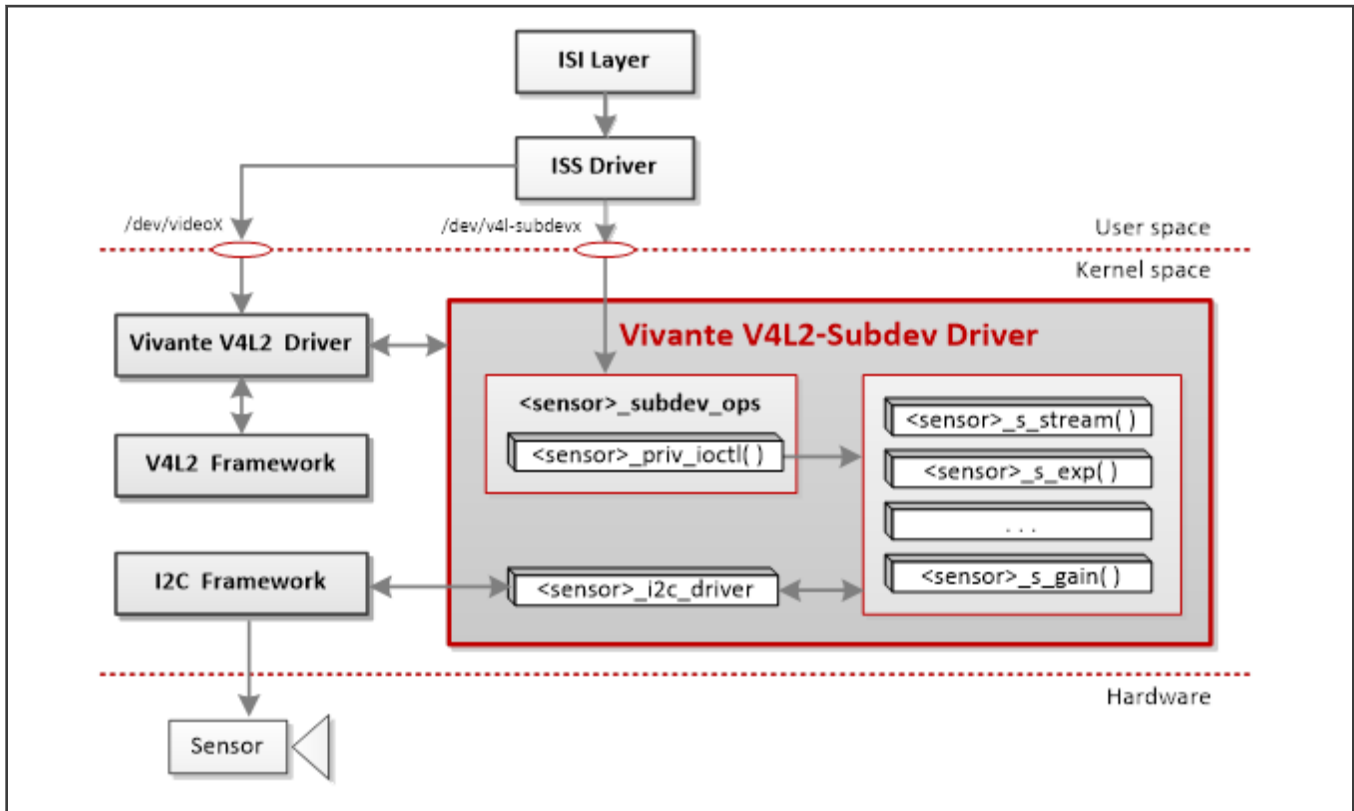

Figure 5. VVCAM Software Architecture in V4L2 Mode
step 5) The V4L2 architecture of sensor driver is shown in Figure 5. To specify a camera sensor, the sensor driver must be added by developers in file vvcam/v4l2/sensor/<sensor>/<sensor>_xxx.c where <sensor> is the name of the sensor (for example, OV2775). Developers can refer to the file ov2775_mipi_v3.c to add their own sensors.